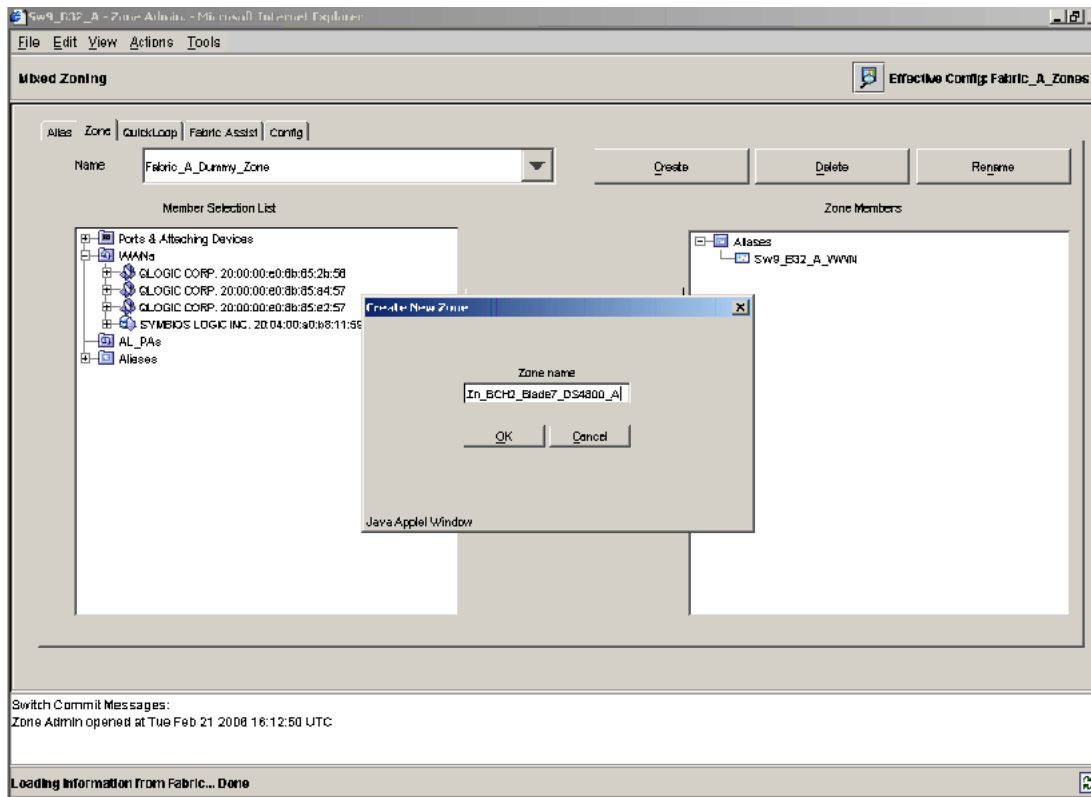

Figure 5-59 Creating a new zone name
2. Click **Create** and enter a unique zone name for a specific server-storage combination (see Figure 5-59). Here we name the new zone Zn_BCH2_Blade7_DS4800_A. We use the prefix Zn to designate that this name is a zone name. The BCH2 represents the specific BladeCenter chassis; Blade7 the blade server and DS4800 the storage device.